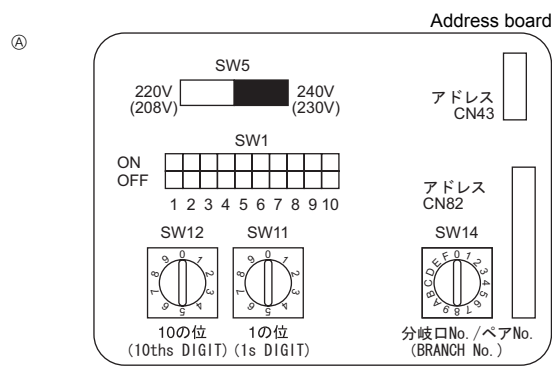

Fig. 5-5
5.5. Setting addresses (Fig. 5-5)
- ① How to set addresses